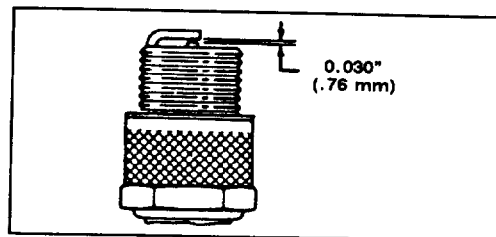

Figure 14
3. INSTALL SPARK PLUG—Set air gap (Fig. 14) between electrodes at .030" (.76 mm). Install plug and tighten to 15 ft-lb (20.4 N-m). If torque wrench is not used, tighten plug firmly with wrench by hand; **DO NOT OVERTIGHTEN**. Push wire onto spark plug and reinstall control panel.